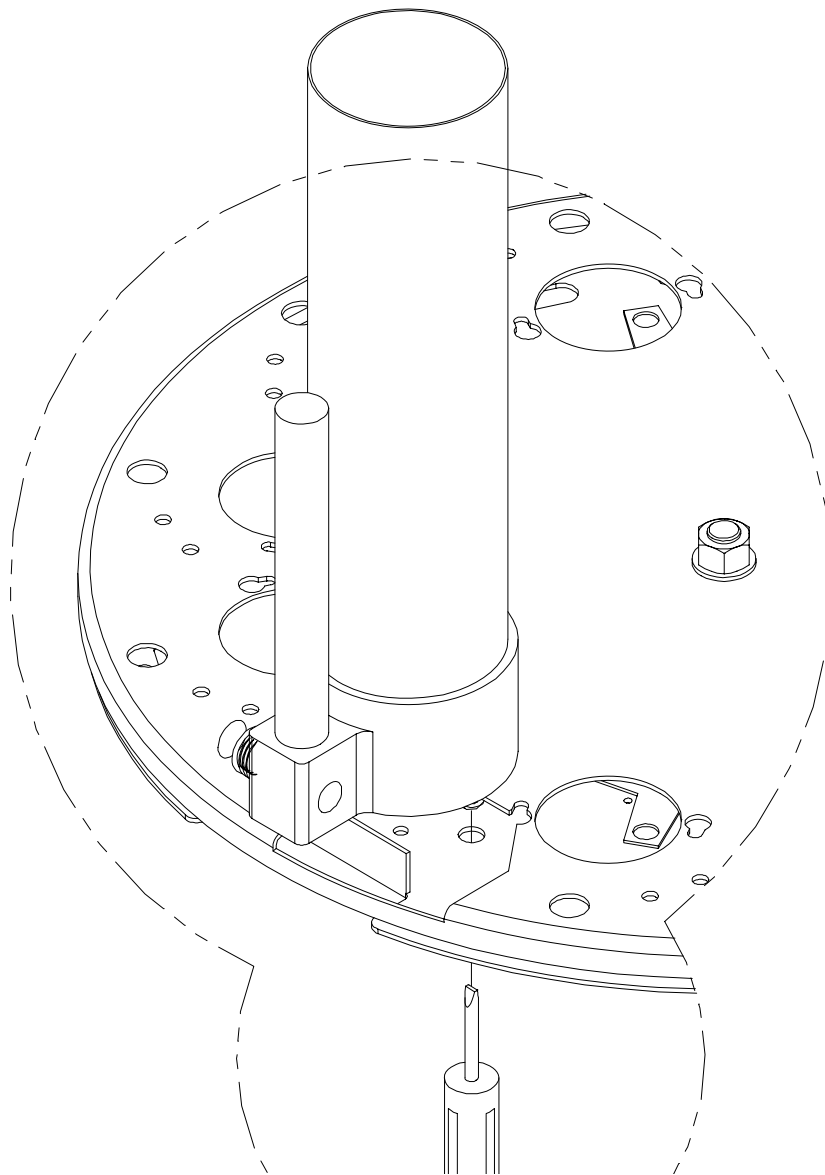

Figure 4 SECURING CANISTER
6. While holding canister in position, secure the canister to the turntable using a screwdriver. Access holes are provided at the bottom of the turntable to tighten the two screws. (Figure 4 on page 8) **Do not overtighten these screws.**